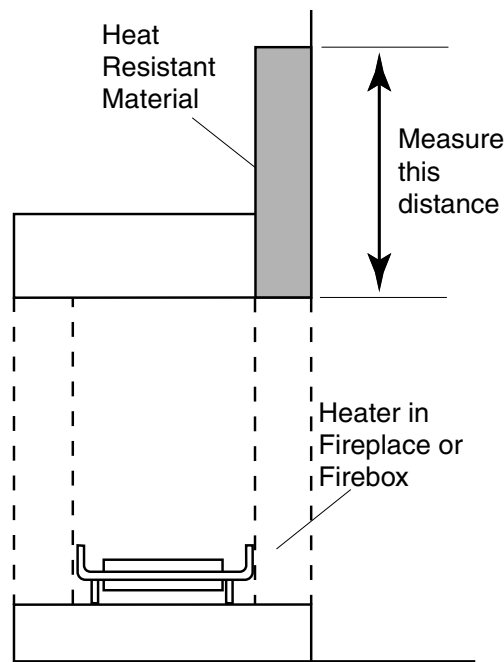

Figure 5 - Measuring Heat Resistant Material
2. If installing unit into a vented firebox with a working damper, minimum clearances shown in Figures 5 through 10 must be met.
To install the gas logs into a fireplace with no wooden mantel, shelf or other combustible projection above the fireplace opening, measure the heat resistant material height, *per Figure 5*, then refer to **TABLE A**.